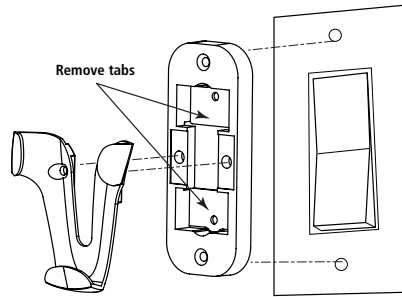

Figure 9b
1. Break off the two tabs by pushing outward. See Figure 9b.
3. Orient the remote cradle as shown in Figure 9b. Line up the two outer mounting holes with those on the switch, insert screws, don't over tighten.